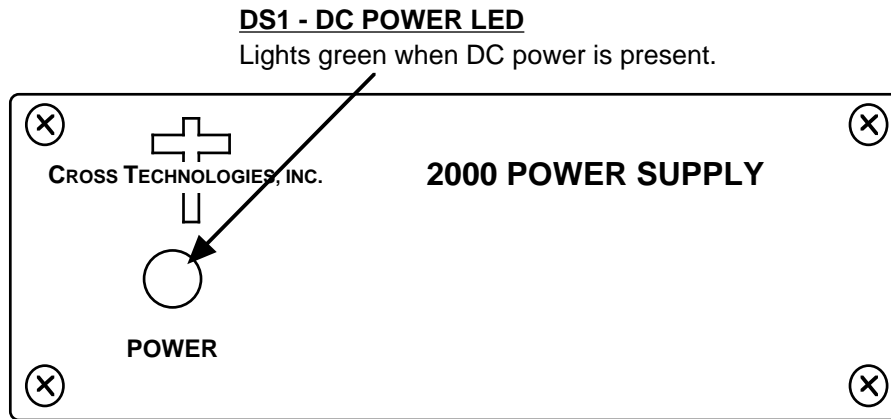

FIGURE 2.2 2000-02 Front Panel Indicator
2.2 Controls and Indicators - Figure 2.2 shows the indicator on the front panel.
3. Be sure DS1 (green, DC POWER) is on (Figure 2.2).
6. Apply 100-240 \pm 10% VAC, 47-63 Hz AC power to the 2000-02 and be sure DS1 (green, DC POWER) is on (Figure 2.2).